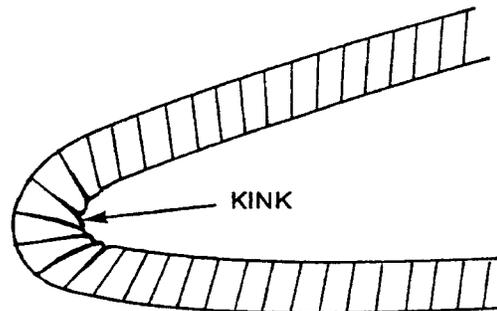

Figure: 5-3 – Repair Necessary. Damage Due to Bending Beyond Minimum Bend Radius
- c. The tubing has been bent beyond its minimum bend radius so that a crease or kink remains. (Figure: 5-3).